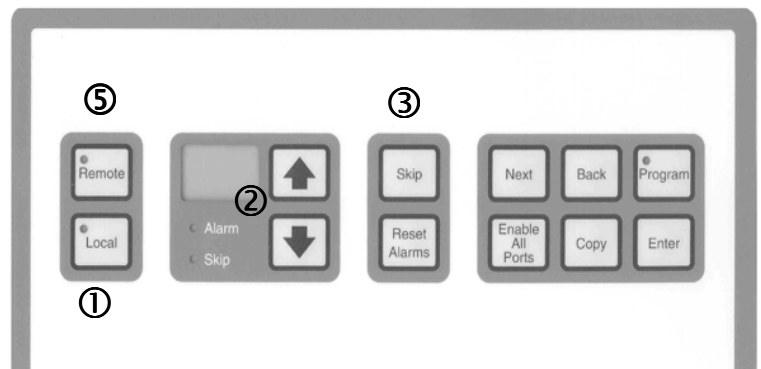

Figure 6. Manifold Controller “Skip” Programming
1. At the Manifold Controller, (Figure 6) verify “Local” is lit. If not, press the “Local” button so that it is.